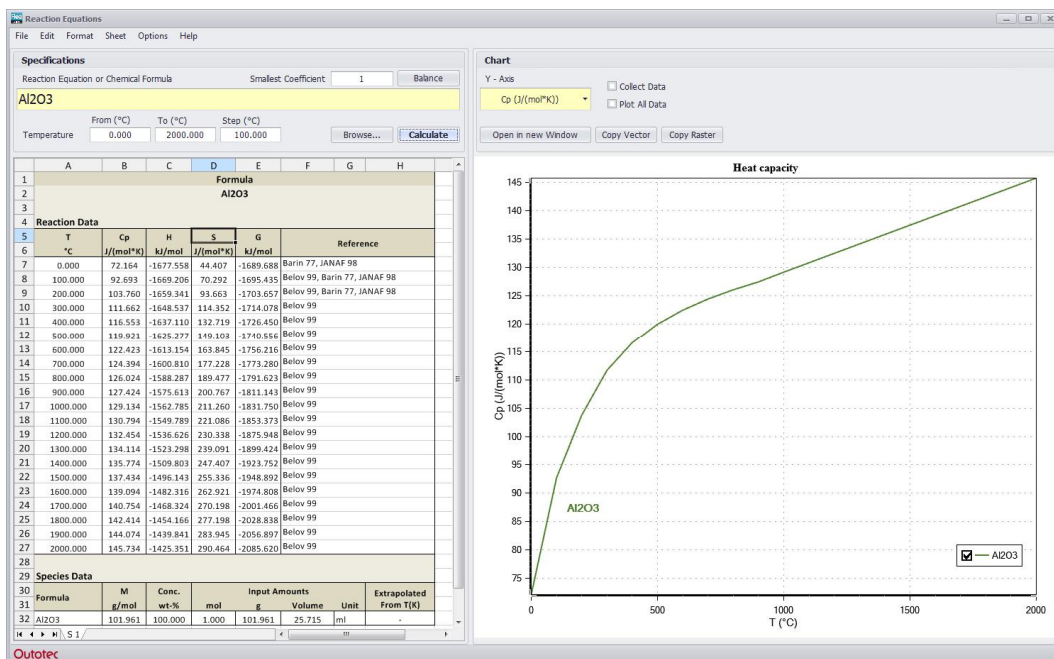

Fig. 1. Reaction Equations window of HSC Chemistry.
Clicking the **Reaction Equations** button in the main menu of HSC shows the Reaction Equations Window, see **Fig. 1**. With this module you can calculate the heat capacity, enthalpy, entropy and Gibbs energy values of a single species as well as of specified reactions between pure substances. The module also enables graphing of the results as a function of temperature.
- Write a chemical formula in the formula box, (top left in **Fig. 1**)
1. It is easy to check the basic data that has been used in the reaction module calculations from the database. In Fig. 1, select the formula in the Reaction Equation box and press **Browse...**
2. The table in Fig. 1 has some formatting and Copy - Paste functions as do other tables in HSC Chemistry. These features help to create a good printed copy of the results for various purposes.
After pressing the Calculate button in **Fig. 1**, you will get the results in a table in the lower part of the window as well as a graph for a single property. You can save and print these results by using options found in the File and Edit menus:
1. Click **Save As...** if you wish to recalculate the results later. The **Save As...** function will also save the settings used in **Fig. 1**. You can read these files back to HSC using **File Open**.